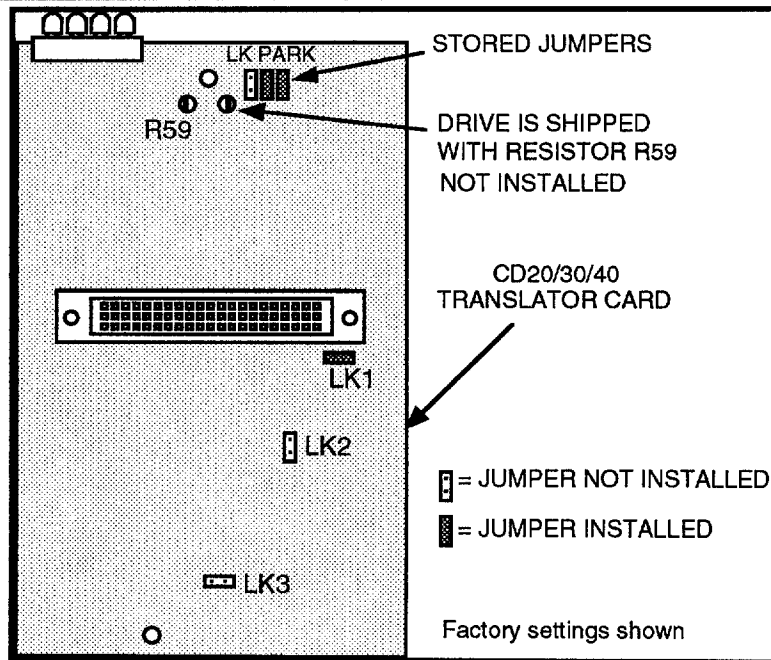

Figure 3-8. Location of CD20/30/40 Drive Jumpers and Resistor R59
- Stepping Mode (Resolution)** You can use Jumper LK3, located on the translator card, to select either full-step or half-step modes. The CD drive system is shipped with Jumper LK3 not installed, selecting the half-step (400 steps/rev) mode. Installing Jumper LK3 selects the full-step (200 steps/rev) mode. Refer to Figure 3-8 for the location of Jumper LK3. *NOTE: Make sure Jumper LK1 on the inside of the CD drive motherboard is set to position A.*
- Energize** To use the shutdown facility and the X-Code Shutdown (**ST**) command, remove Jumper LK1 on the translator card (Refer to Figure 3-8.) The system is shipped with Jumper LK1 installed. Leaving LK1 installed causes the drive to be permanently energized and the **ST** command will have no effect.
- De-energize at Standstill** Installing Jumper LK2 on the translator card causes the drive to automatically de-energize at standstill. The system is shipped with Jumper LK2 not installed, causing the drive to remain energized at standstill. Refer to Figure 3-8.
- The regulated current may be reduced by installing a resistor in location R59 on the CD translator card (see Figure 3-8 for resistor location). The CD drive system is shipped with R59 not installed, thus providing an open circuit (maximum current output).